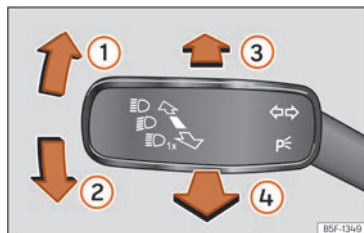

Fig. 103 Turn signal and main beam lever.
- From the base position, press the turn signal and main beam headlights lever forwards » » **Fig. 103 ③**
- **OR:** while the main beam is on, pull the turn signal light and main beam headlights lever forwards » » **Fig. 103 ④**.